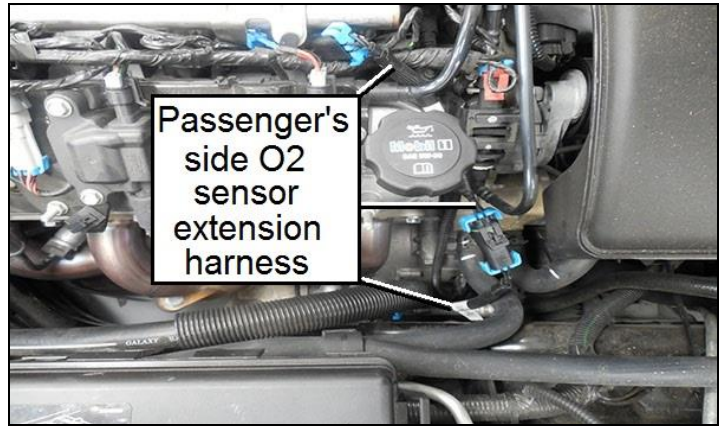

Figure 2
7. The passenger's side harness will run behind the A/C line and up along the cylinder head and down the injector harness. Be sure and keep the harness clear of the header tubes and any moving parts. Position the connector under the injector harness to keep it from interfering with the engine cover. See **Figure 2** below.